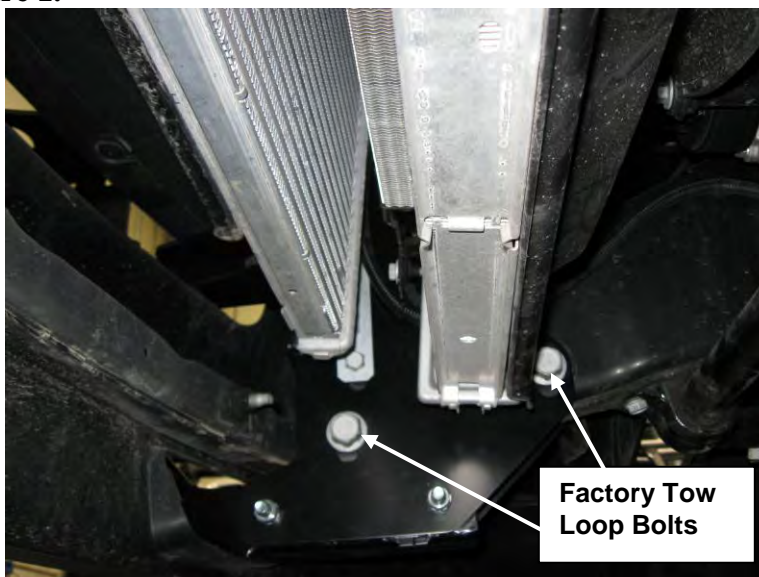

Figure 1: Bolts attaching Frame Extension Bracket to frame (viewed from center of vehicle, looking outward)
1. Install the appropriate Frame Extension bracket. Push the factory tow loop bolts through the Frame Extension and install the factory nut on each. Lift the intercooler and reinstall the factory "paired bolts" from the inside, through the Frame Extension. Install the factory nuts. Do not tighten any hardware yet. Repeat for the opposite side. See **Figure 1**.